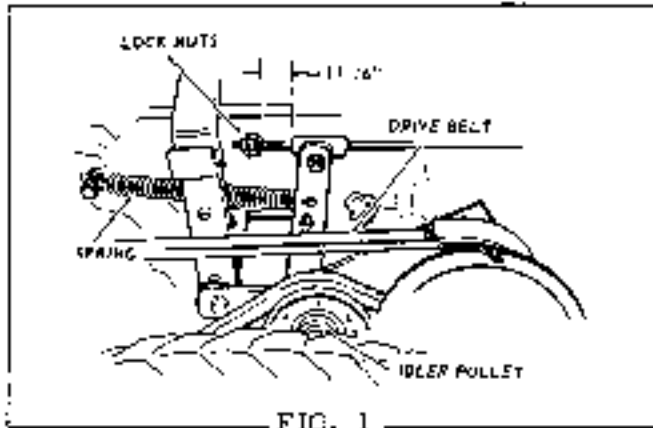

FIG. 1
With clutch and brake pedal in normal position (i. e., clutch engaged and brake released), adjust hex nuts (A) to give $3/4$ " clearance between rod guide assembly (B) and nuts. (See Fig. 1).
Position the set collar on the clutch rod to compress the spring about $5/8$ ". Then recheck and position the locknuts "A" to leave a spacing of about $3/4$ " between them and the end of the rod guide "B", Fig. 1. Check to see that when the pedal is operated, the spring is completely decompressed as the locknuts engage the end of the rod guide.
Adjust locknuts on clutch rod to give 11/16" space between them and idler pulley pivot arm. (See Fig. 1).